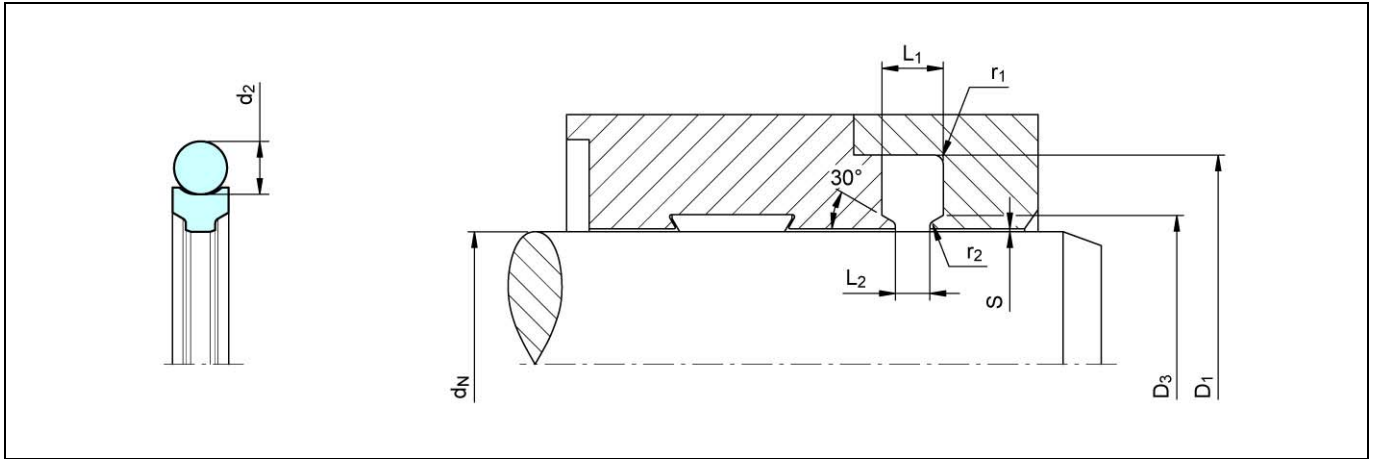

Figure 11 Installation Drawing
The Turcon® Captive Glyd Ring® uses a "split" groove design. The installation dimensions are included in figure 11 for ID seals, and figure 12 for OD seals.
- For ID seals $\varnothing D_1$ and $\varnothing D_3$ (see figure 11)